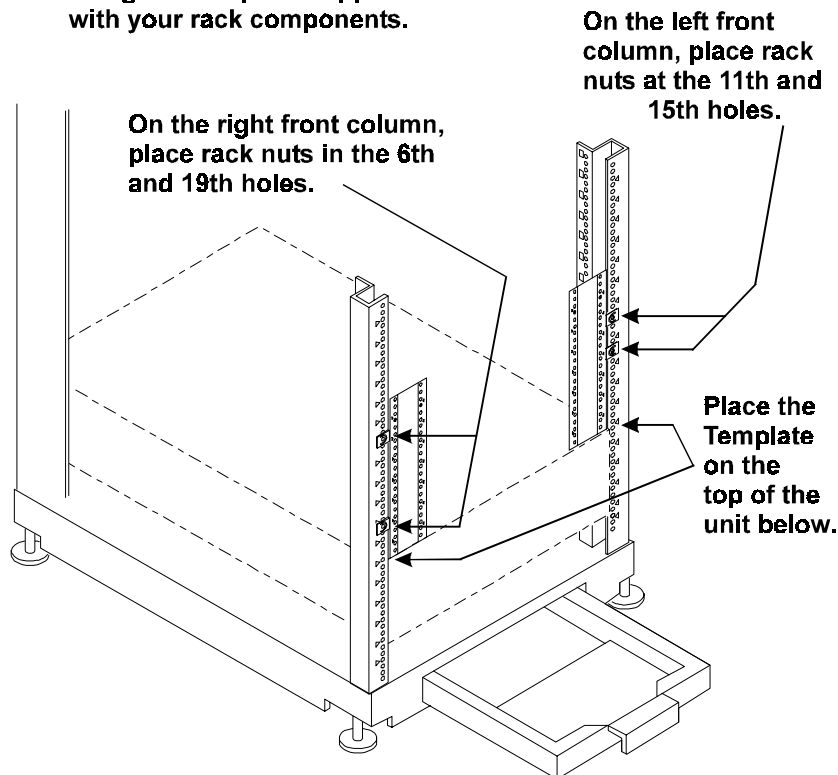
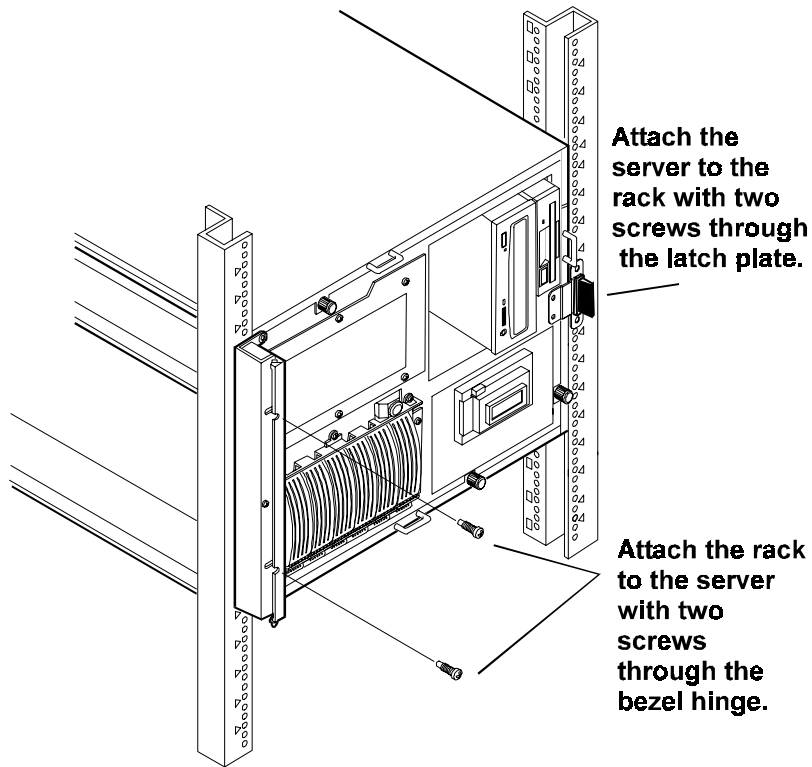

Figure 8-11. Place Rack Nuts for Later Use in Securing the Bezel
Figure 8-17. Fasten Bezel Mount in Place
- ◇ The rack nuts are placed in different positions on the front right-hand column than they are on the front left-hand column. See Figure 8-11.
- ◇ If you no longer have a template, place the rack nuts for the bezel latch on the right front column in the 11th and 15th EIA holes above the unit mounted below the HP NetServer. Place the rack nuts for the bezel hinge on the left front column in the 6th and 19th EIA holes above the unit mounted below the HP NetServer. See Figure 8-11.
12. Slide the server into the rack and attach the bezel hinge to the two (previously installed) rack nuts on the left column (refer to Figure 8-11) by means of two screws. Secure the latch plate on the right side of the server to the two previously installed rack nuts on the right column. See Figure 8-17.